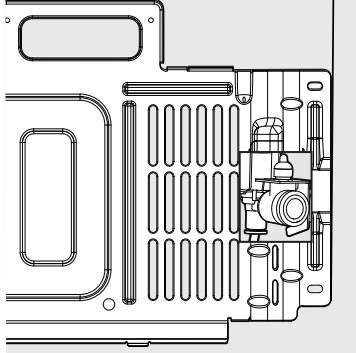

Figure 19
16. Reinstall the access cover by hooking cover onto the bottom flange of the cabinet, and then tilt the cover upward to align with the screw locations on the cabinet. Install the screws starting with the 2 on the left side, then the right side, finish with the center screws. See Figure 19.